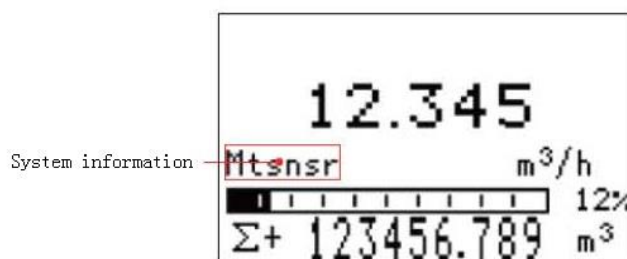

Figure 32
7.1 System information-figure 32